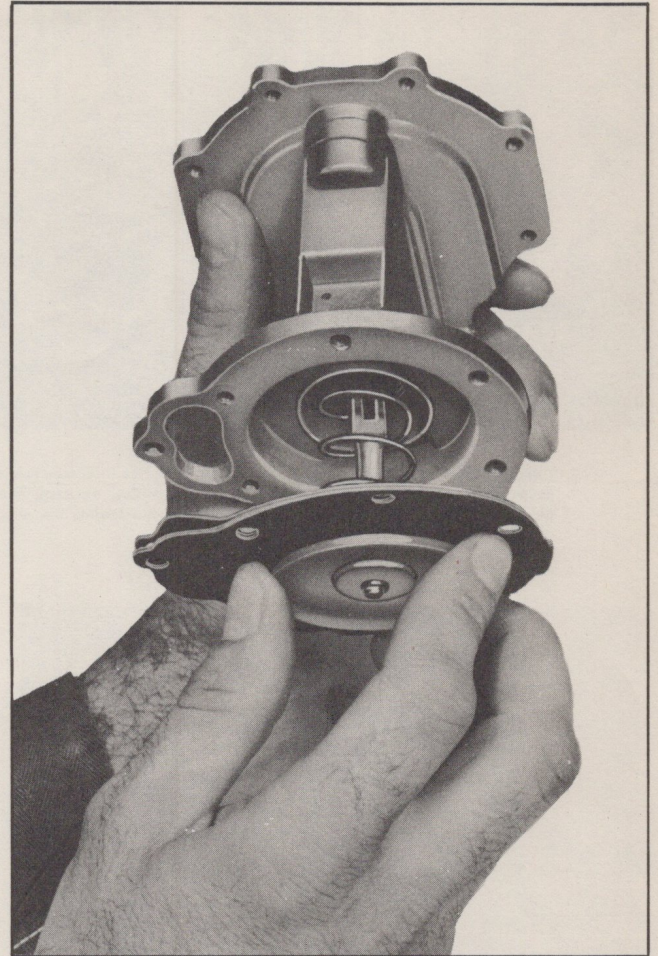

Fig. 6 Installing Fuel Pump Diaphragm
2. Place diaphragm spring retainer over fuel diaphragm push rod and set diaphragm spring on retainer. Hold the pump body with the fuel side down so that the fuel pump link can be seen through the seal. Insert pump diaphragm push rod through the seal and hook onto pump link (see Fig. 6).